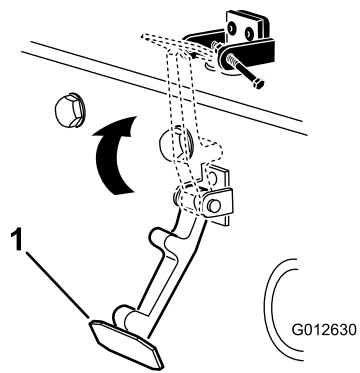

Figure 7
7. Hook the latch onto the hood-latch bracket (Figure 7).